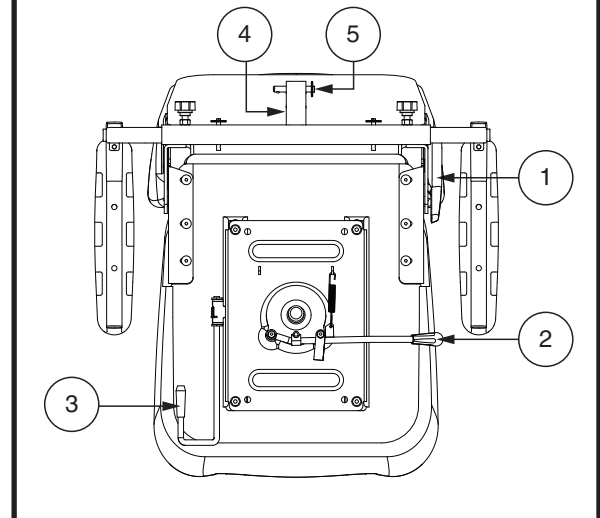

Figure 15. Seat Adjustments
1. Depending on your seat type, either pull upward or push forward on the seat rotation lever to disengage the seat. See **figure 15**.
If your scooter is equipped with a reclining seatback, you can adjust the seatback angle with the seatback adjustment lever. See **figure 15**.
1. Move the seat sliding lever (located at the lower left side of the seat) outward. See **figure 15**.
The rear-mounted accessory bracket allows you to attach a personal accessory such as a basket, walker holder, or oxygen tank to the back of your scooter. Use the detent pin to securely mount your item to the accessory bracket. See figure 15. See your authorized provider for details.